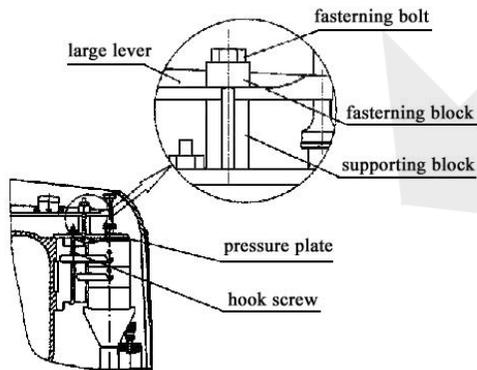

Figure 2
- Loosen the nut on the hook screw by a spanner, remove the hook screw and then pressure plate fastening the weights (see Fig 2).